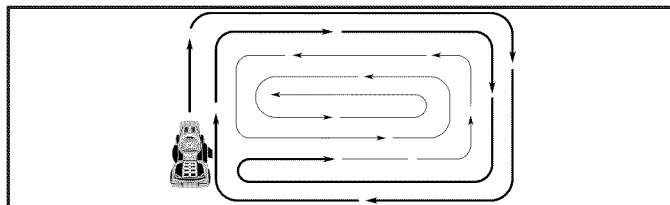

Fig. 16
- When mowing large areas, start by turning to the right so that clippings will discharge away from shrubs, fences, driveways, etc. After one or two rounds, mow in the opposite direction making left hand turns until finished (See Fig. 16).